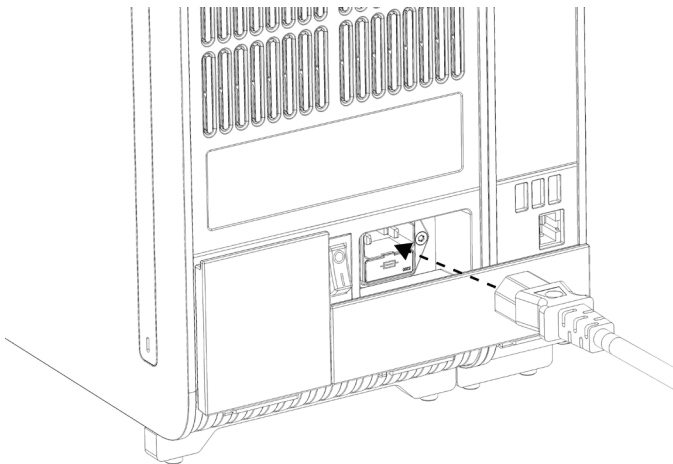

Figure 10. Connecting the power cord.
7. Connect the power cord that was delivered with the QIAstat-Dx Analyzer 1.0 to the back of the Analytical Module (Figure 10).